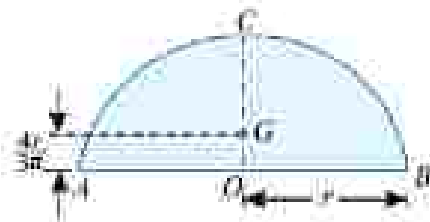

Fig. 6.4. Semicircle
5. The centroid of a semicircle is at a distance of $\frac{4r}{3\pi}$ from its base measured along the vertical radius as shown in Fig. 6.4.